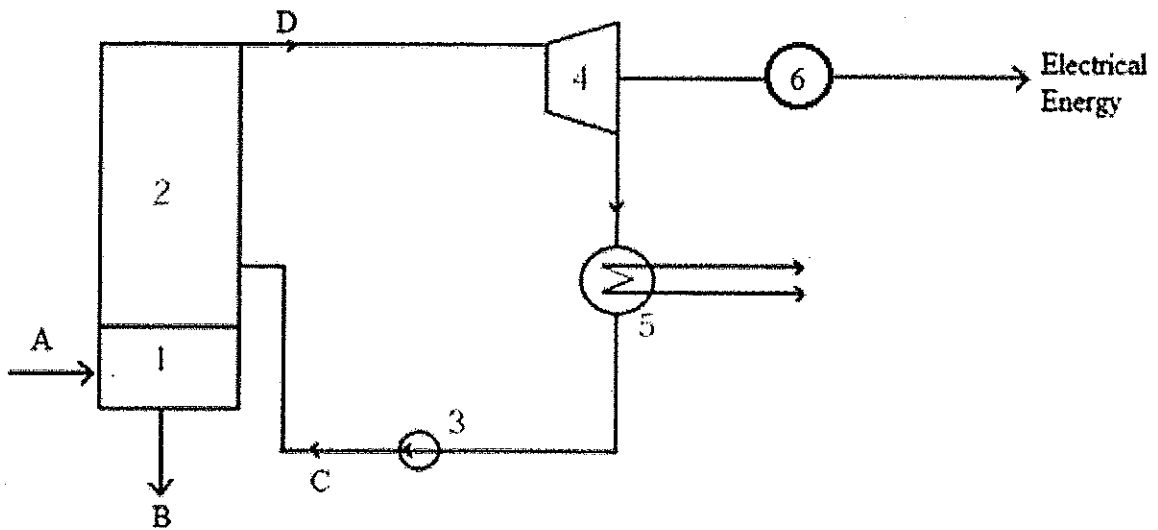

Figure Q1
2. This question paper consists of **Six (6)** questions in **Five (5)** pages.
3. Answer any **Five (5)** questions only. All questions carry equal marks.
- a. A schematic diagram of conventional thermal power plant is shown in figure Q1. Identify the elements 1,2,3, 4, 5, 6 and A,B,C and D. Write briefly functions of 2,4 and 5